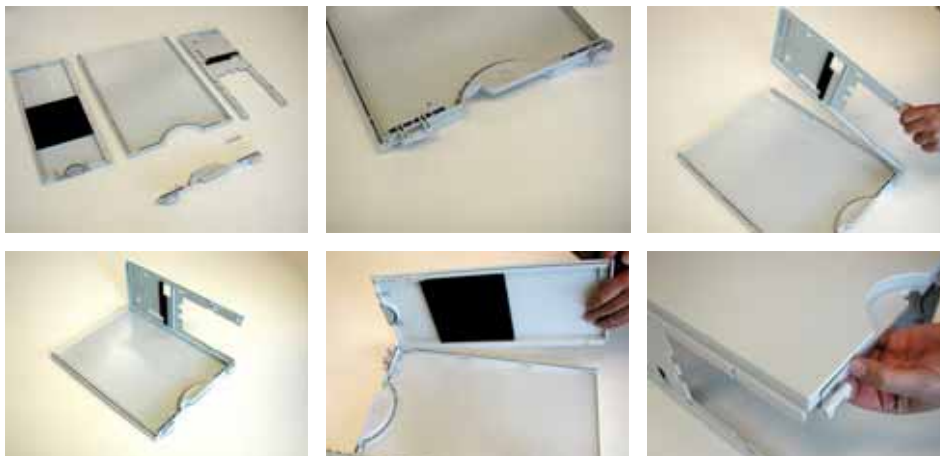

Figure 6 Assembling the new cover
- 7 Assemble the new plastic cover (see Figure 6).